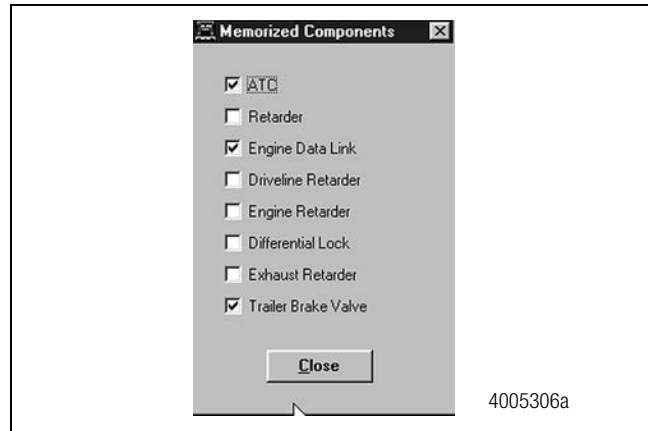

Figure 3.12
**NOTE:** Use Display/Memorized Components to **view** data. Figure 3.12. To **clear** a memorized component, use the Memorized Components function that appears on the Component Tests Menu.